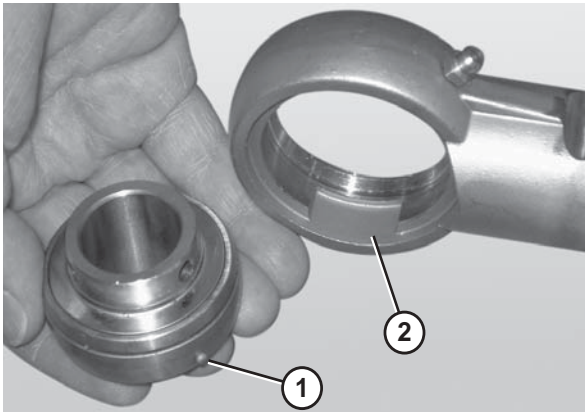

Figure 64
4. Remove the worn or damaged bearing (**Figure 64**).
When inserting the new bearing, make sure the anti-rotation notch (**Figure 64, item 1**) on the bearing lines up with the groove inside the housing (**Figure 64, item 2**).